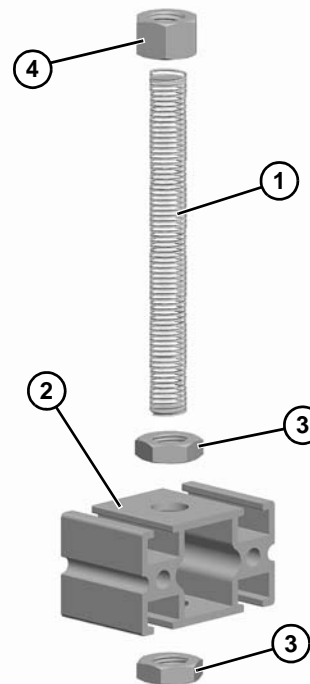

Figure 74
1. Install stud (**Figure 74, item 1**) to support tube (**Figure 74, item 2**) using two jam nuts (**Figure 74, item 3**).
2. Tighten jam nuts (**Figure 74, item 3**) leaving some thread protruding from bottom nut. Thread hex nut (**Figure 74, item 4**) onto stud.